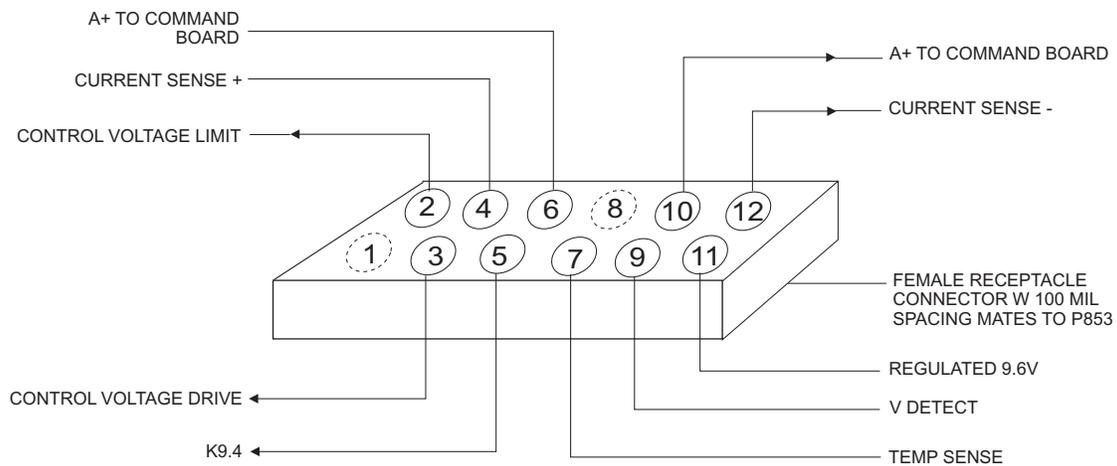

Figure 4-9. PA Test Adapter, 40 Watt Power Amplifier
2. Apply the input power and DC voltages indicated in Table 4-19 to the power amplifier assembly. To make the DC connections, use small spring-clips or make a test adapter similar to that shown in "Figure 4-9. PA Test Adapter, 40 Watt Power Amplifier".